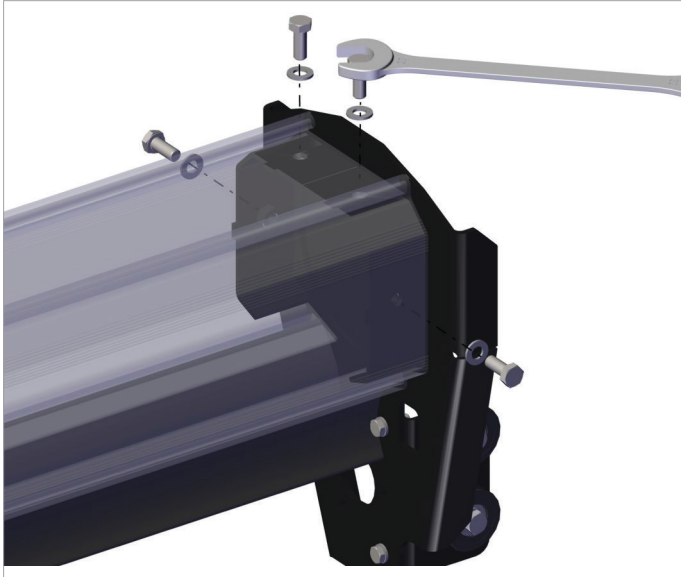

Fig. 4.3.6 Mounting the cover plate
- Mount the CRS cover plate to the other end of the rail and secure with 4x M8x20 bolts and 4x M8 washers using wrench 13 (0,5 in.). Refer to fig. 4.3.6.